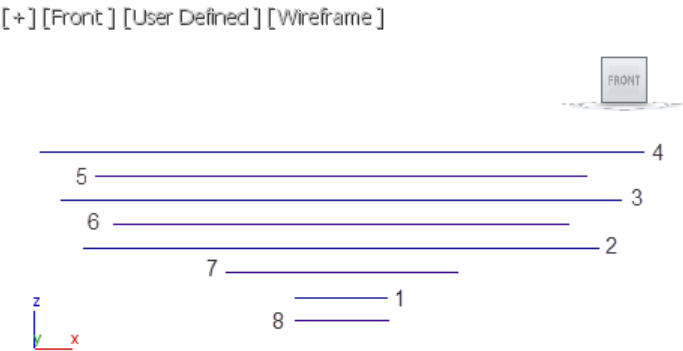

Figure 15-61 All NURBS curves scaled in the Front viewport
- 9. Choose the **Select and Uniform Scale** tool from the **Main Toolbar** and scale the NURBS curves uniformly in the Front viewport, as shown in Figure 15-61.